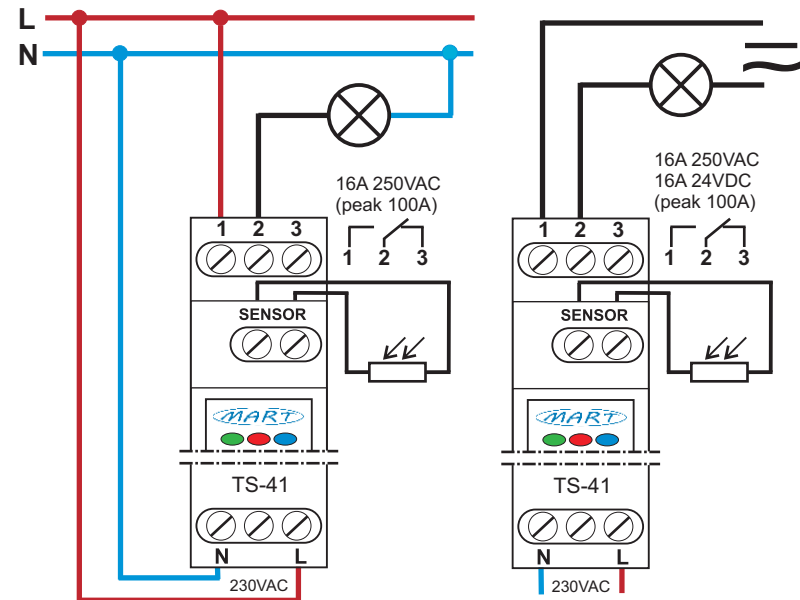

Fig. 2. : Connection diagrams for the TS-41-3.4 TWILIGHT SWITCH automatic device.
3. Connect the wires in accordance with the diagram (fig. 2)